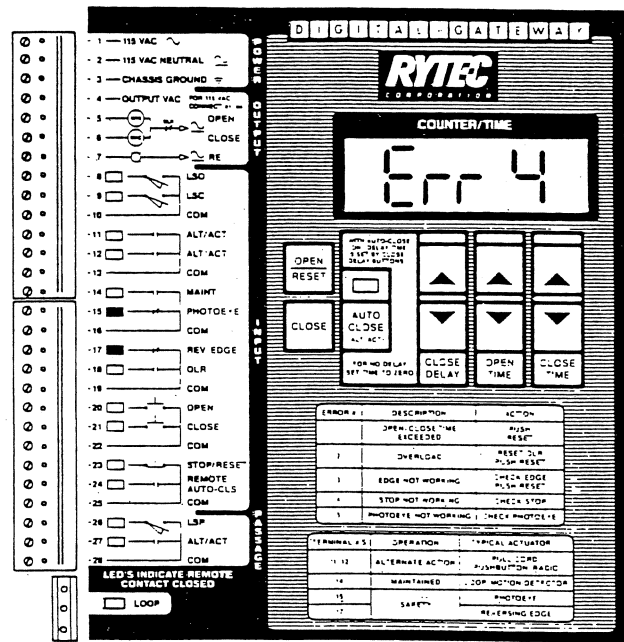

Figure 14.
7.4 Error 4 (Err 4) — see Figure 14